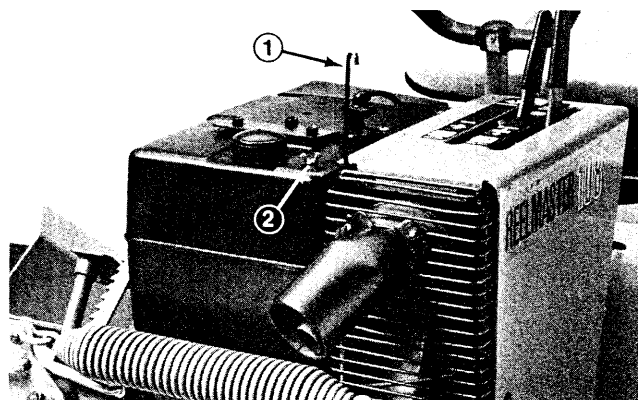

Figure 25
3. Lift rod out of frame and shroud (Fig. 25).